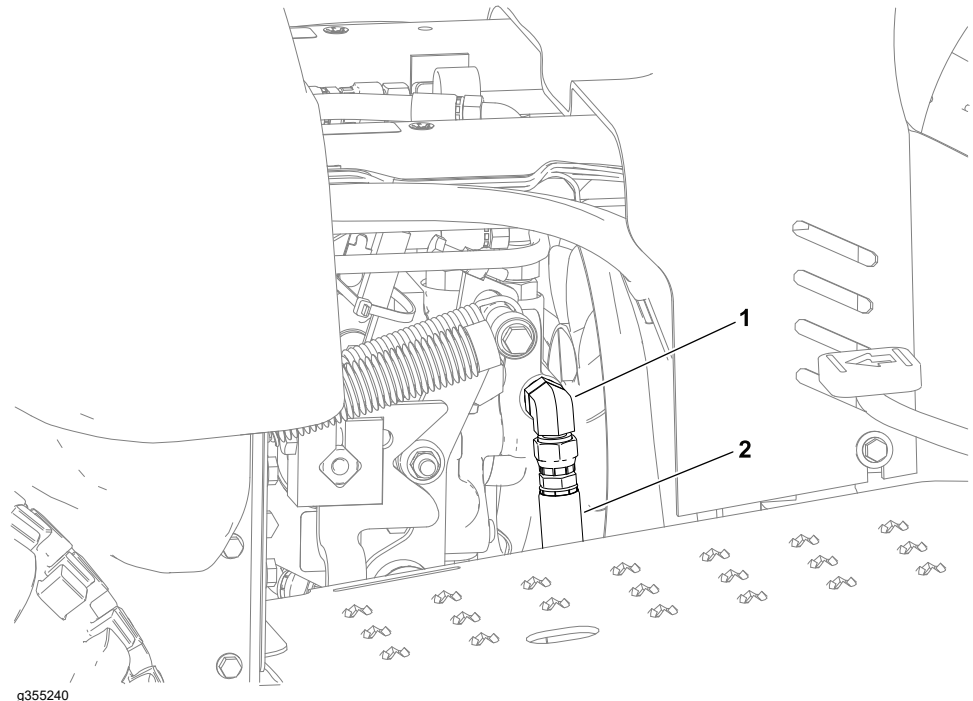

Figure 39
4. Clean the fitting and the hydraulic hose on the right side of the hydraulic pump shown; refer to Figure 39.